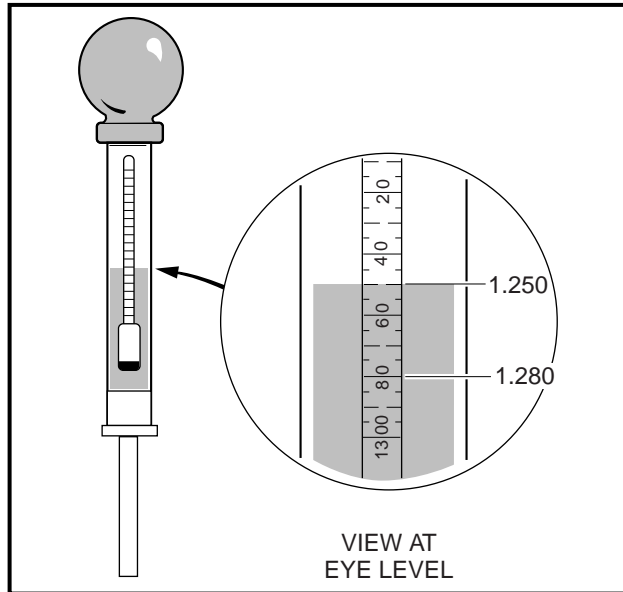

Figure 11-22 Hydrometer Test
A hydrometer (CCI 1011478) measures the specific gravity. The higher the specific gravity, the higher the state of charge of the battery. A fully charged battery should read between 1.250 and 1.280 at 80 °F (27 °C). Never add acid to the battery to obtain a higher specific gravity (**Figure 11-22, Page 11-22**).
6. Hold the hydrometer vertically, ensuring that the float is not contacting the sides of the glass tube. Hold the hydrometer at eye level and read the scale at the level of electrolyte (**Figure 11-22, Page 11-22**).